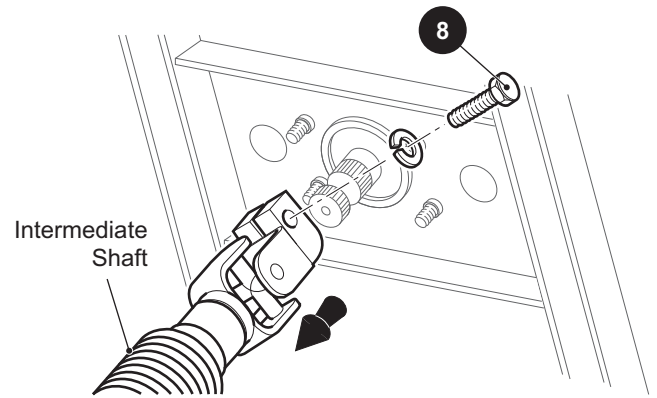

Figure 4 Intermediate Shaft to Steering Shaft
9. Remove the bolt (8) connecting the intermediate shaft to the steering shaft and center the steering wheel (Ref. Figure 4).